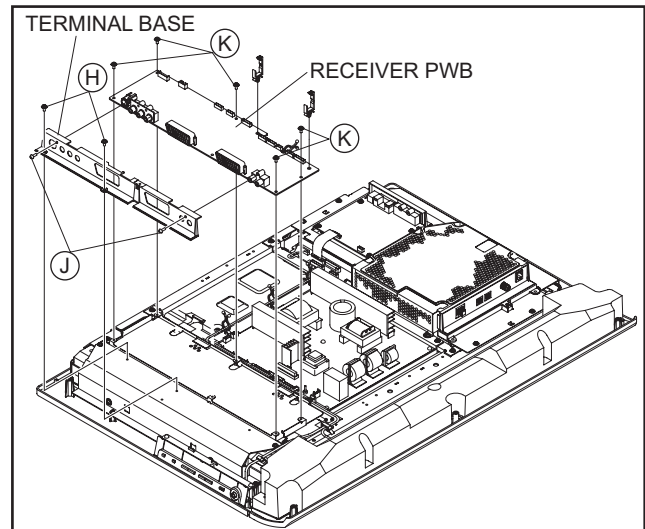

Fig.3-1-4
3.1.4 REMOVING THE RECEIVER PWB (Fig.3-1-4)